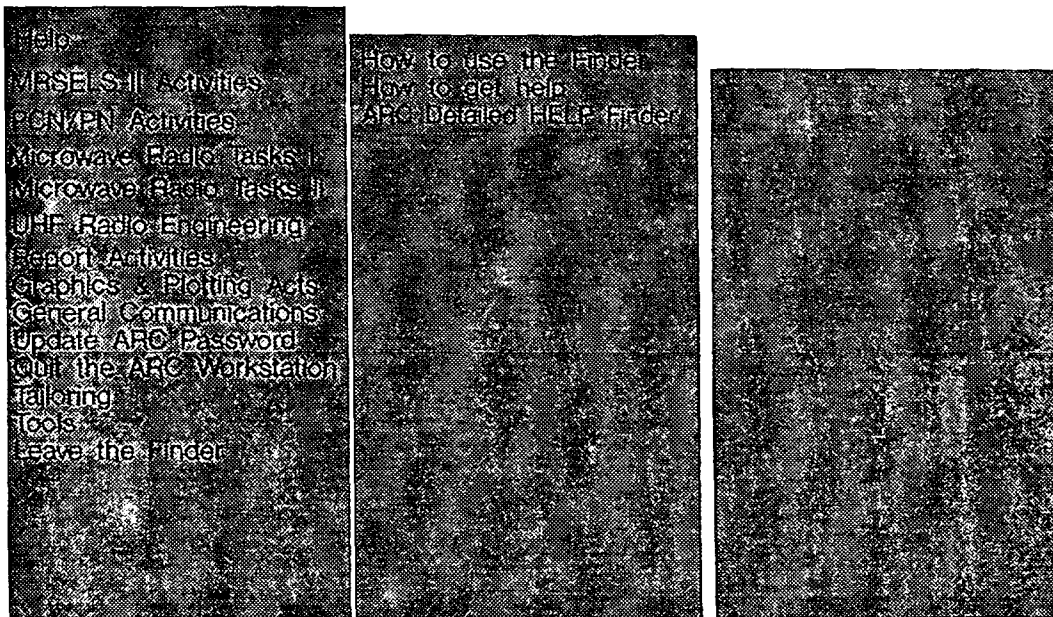
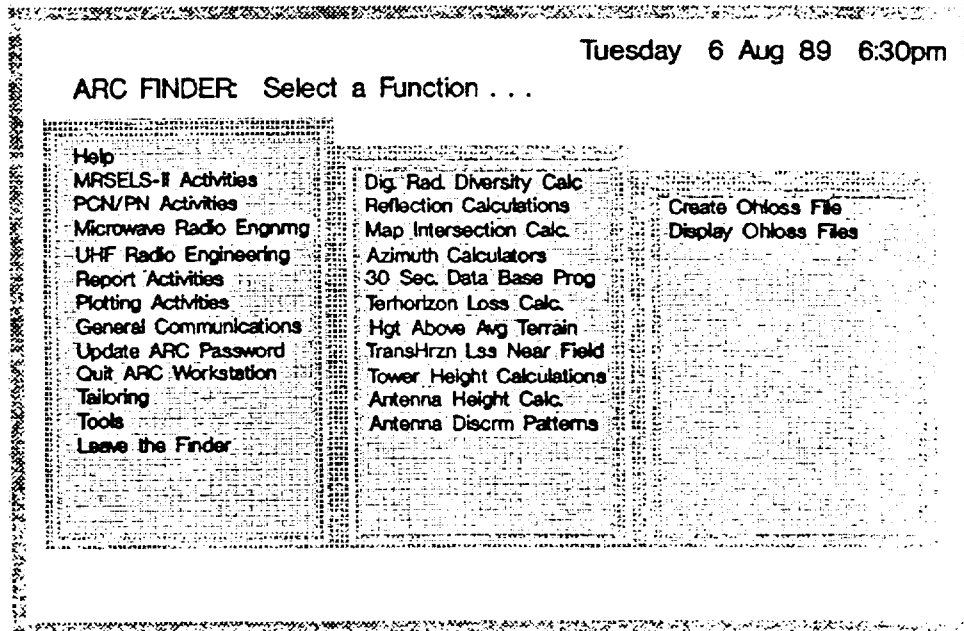

Figure A-3. ARC Workstation Finder
Figure A-4. Creating an OHLOSS File
1. Press <F1> to activate the ARC Workstation finder (Figure A-3).
2. In the left panel, move the selector bar to the Microwave Radio Tasks I option using the cursor up <↑> and cursor down <↓> keys. The ARC function selector menu displays (Figure A-4).
1. Press **<F1>** (you can be at any of the ARC Workstation menus). The ARC Workstation finder should appear (Figure A-3). Choose the appropriate task. The ARC function selector menu appears (Figure A-4).